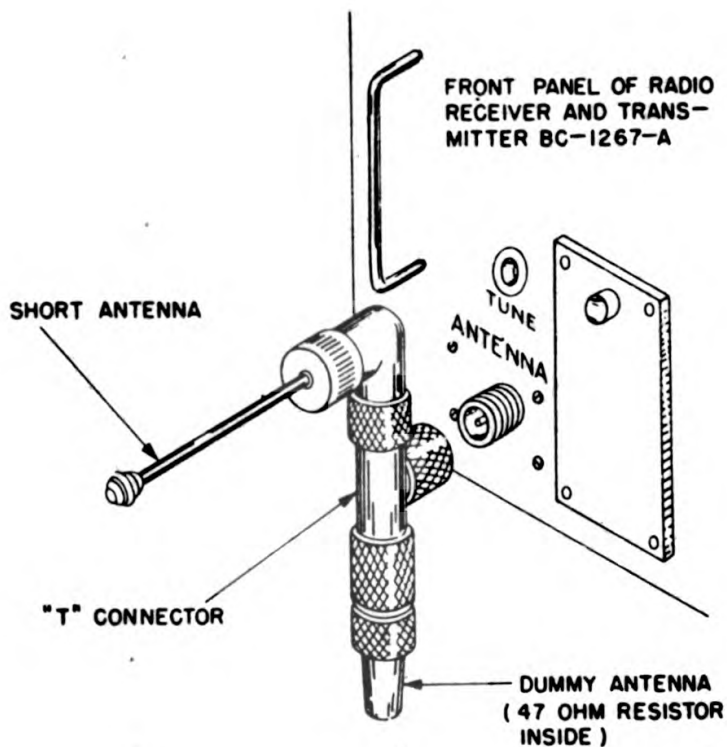

Figure 33. Test Antenna TS-210/MPM and Dummy Antenna TS-208/MPM mounted on Radio Receiver and Transmitter BC-1267-A.
36. TEST ANTENNA TS-210/MPM and DUMMY ANTENNA TS-208/MPM (fig. 33).
b. Connect the T-shaped connector, Adapter M-358, to the ANTENNA connector as shown in figure 33.